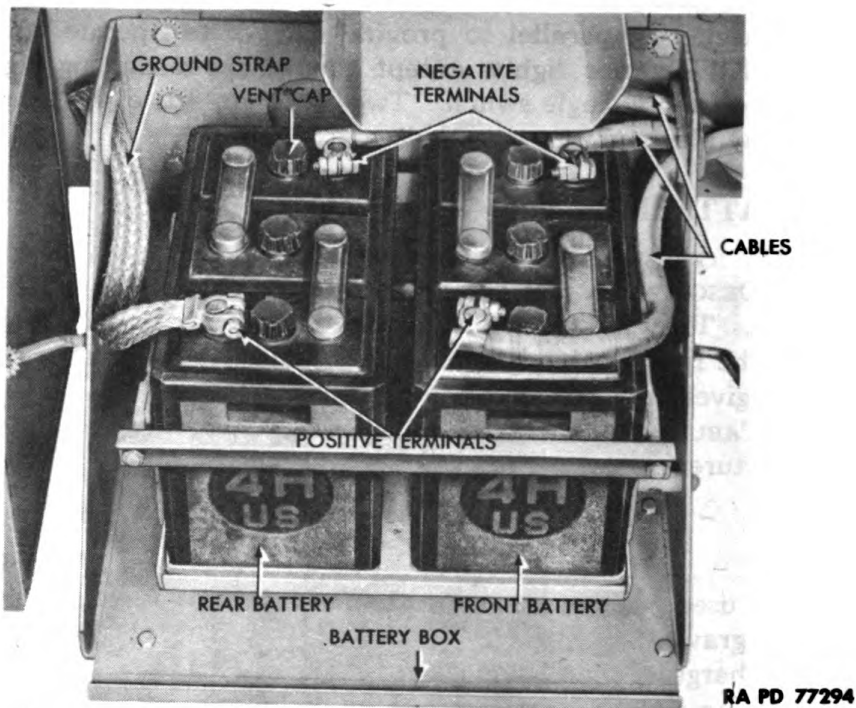

Figure 106 - Batteries Installed
(1) **DESCRIPTION** (fig. 106). Two 19-plate 6-volt storage batteries are used. They are carried in a steel battery box bolted to the right side of the frame behind the cab step plate. A removable cover on the box gives easy access to the batteries.
(2) **ADD WATER TO BATTERY** (fig. 106). Remove vent caps from battery and observe quantity of electrolyte in cells weekly (more often under condition of severe use or excessively high temperatures). Solution should completely cover tops of plates but should not exceed $\frac{1}{4}$ -inch depth above plates. Add pure distilled water whenever necessary to maintain level.
(3) **MAKE HIGH-RESISTANCE TEST** (fig. 106). High-resistance in battery circuit is indicated by slow starter action and brightening of lights with increased engine speed. Use a low-reading voltmeter to check for high-resistance if the condition is indicated. Check voltage drop between grounded battery terminal (positive post of rear battery) and frame. Place one prod of voltmeter on grounded battery post and other prod on frame. Leave ignition switch "OFF" and crank engine with cranking motor. Voltage reading in excess of $\frac{1}{10}$ volt indicates excessive resistance in this circuit. In same manner check voltage drop between negative post of rear battery and positive post of front battery. Voltage in excess of $\frac{1}{10}$ volt indicates high resistance in circuit. Make test in like manner between negative post of front battery and copper connector between cranking motor
c. **Removal** (fig. 106). Loosen thumb screws and lift battery box cover from battery box. Loosen nuts on battery terminal clamps and pull terminals from battery posts. Loosen the two guard angle to end plate bolt nuts. Lift battery from vehicle.
d. **Installation** (fig. 106). Place battery in position in battery box with positive post (slightly larger post) to outside. If rear battery is being installed, connect as follows: cable from "A-" post of cranking motor switch to negative post; ground strap to positive post. If front battery is being installed, connect as follows: cable from cranking motor solenoid switch to negative post; cable from "B+" terminal of cranking motor switch to positive post. Spread a film of light grease over exposed metal parts of cable terminal and post after connection is made. Draw the two guard angles to end plate bolt nuts up snug but not tight. Start engine with cranking motor. Note charge as indicated by ammeter. Satisfactory starting of engine and in-